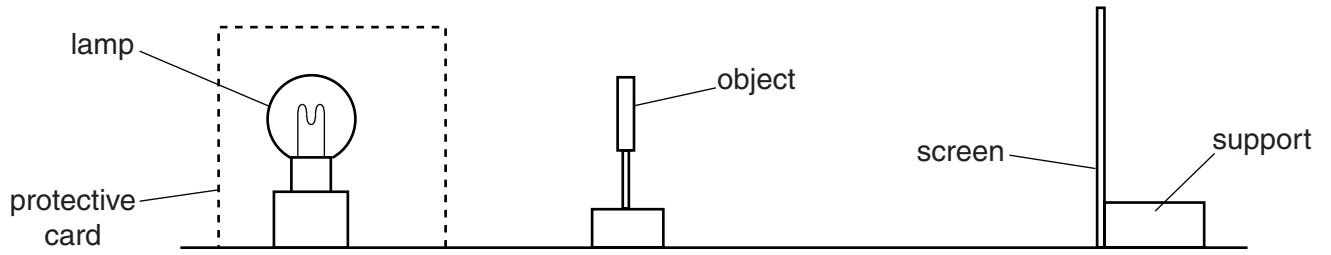

Fig. 4.2
3. The apparatus must be set up as shown in Fig. 4.2. The items should be in line but their positions are immaterial.
Reset the apparatus as in Fig. 4.2.